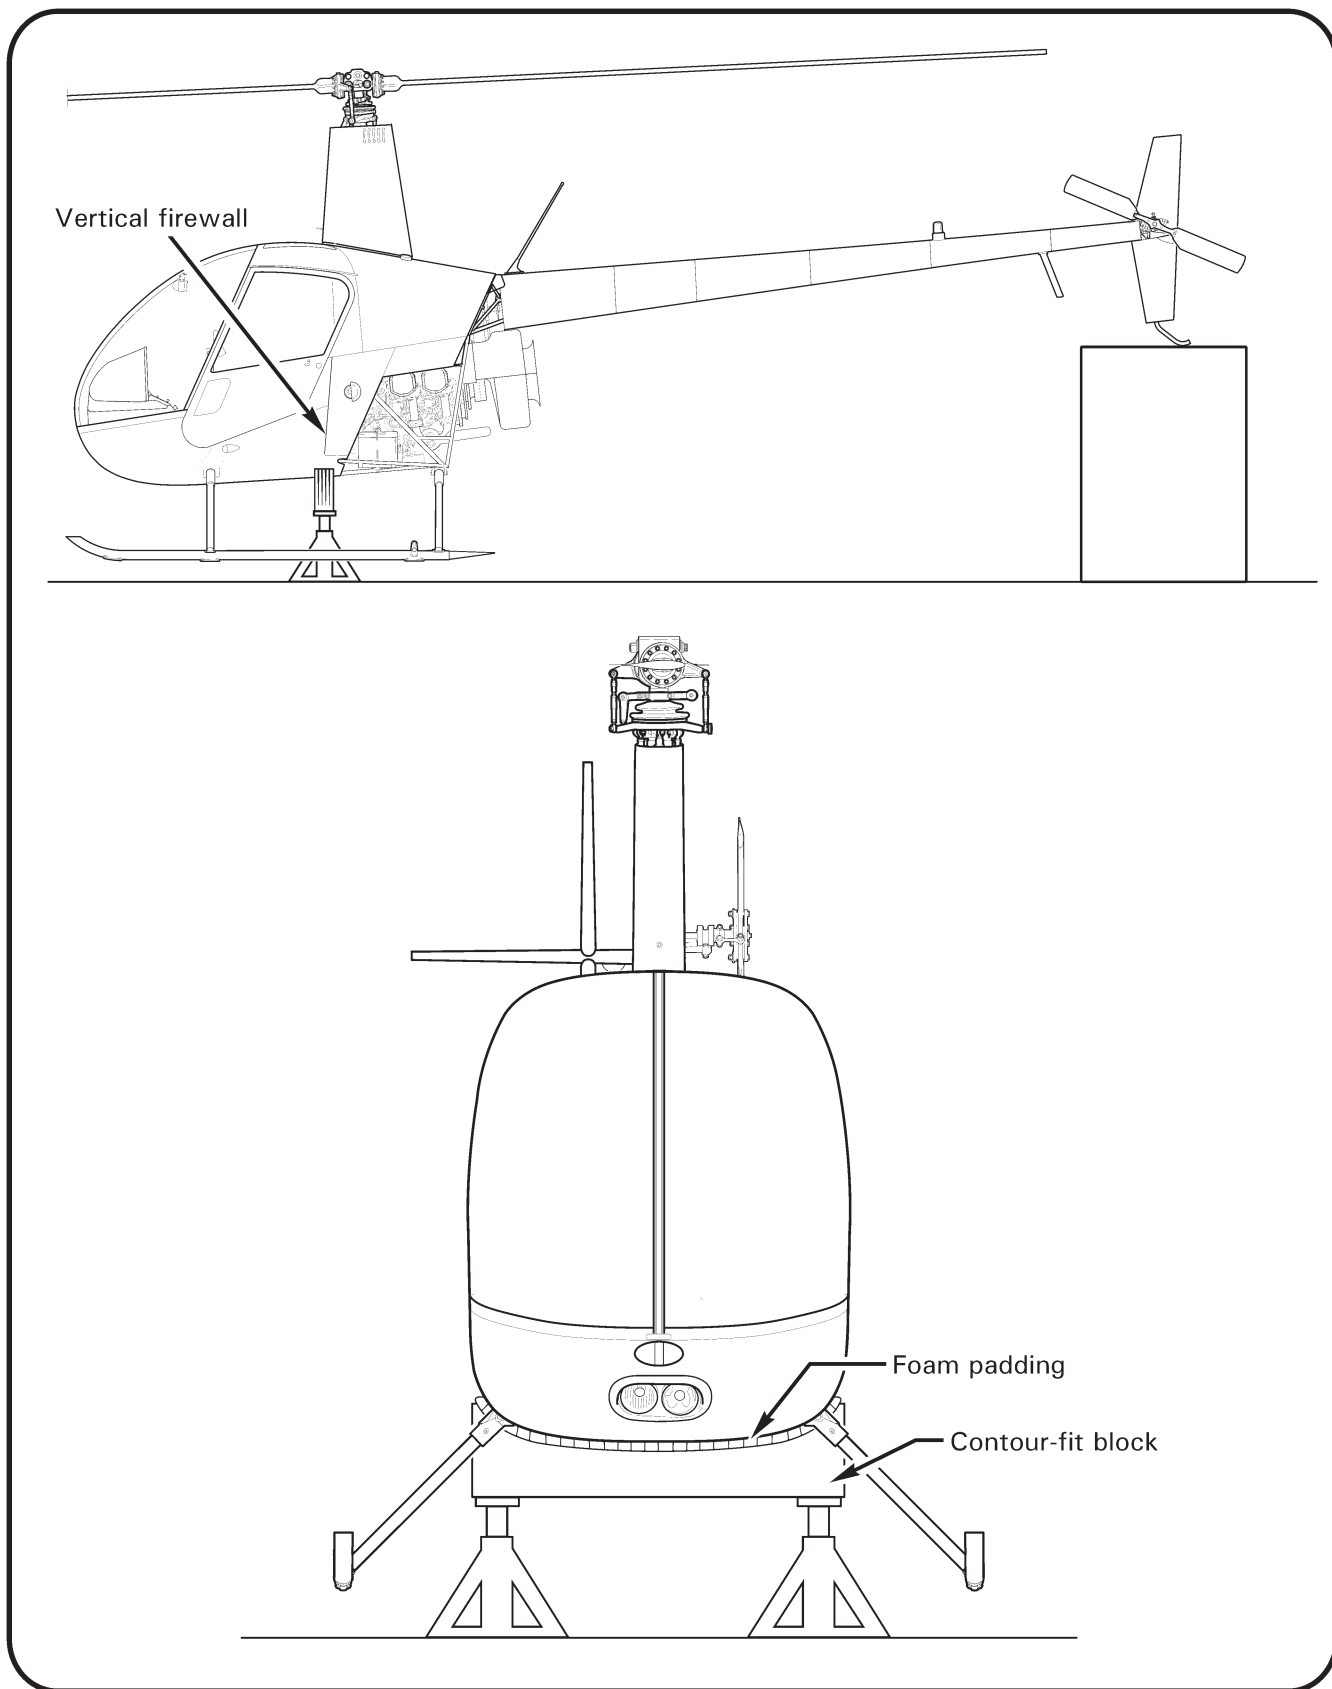

FIGURE 17-1 JACKING
- a. Refer to Figure 17-1. Place a foam-covered contour block under vertical firewall. Install skid stand under tail. Place an appropriate capacity jack under each end of contour block.